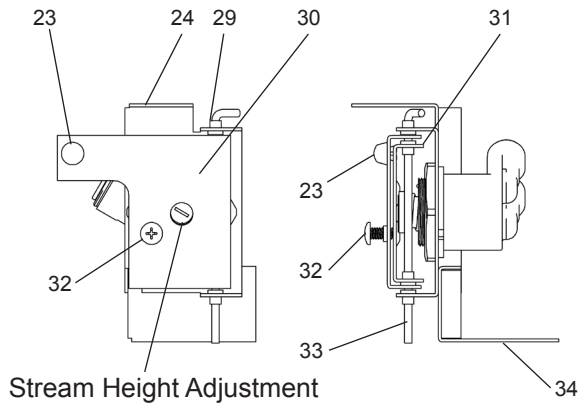
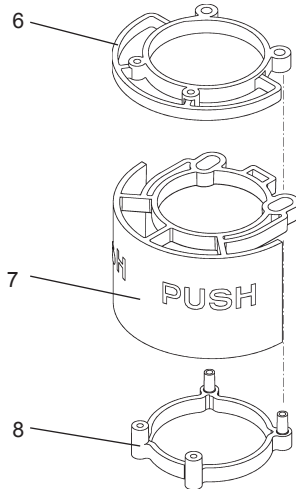

Figure 7
Figure 8
14. **Check stream height from bubbler.** Stream height is factory set for 35-40 PSI supply. If supply pressure varies greatly from this, remove items 6,7, and 8) (push arm and the bottom and the top actuator plates - (Figure 8) by removing the screws holding assembly together and adjust the screw on the regulator (Item 19 - Figures 7 & 9). Clockwise adjustment will raise stream height and counterclockwise movement will lower stream height. For best adjustment, stream height should be approximately 6-1/2" (38mm) above the bubbler guard. Reassemble the pushbar (Fig 8).